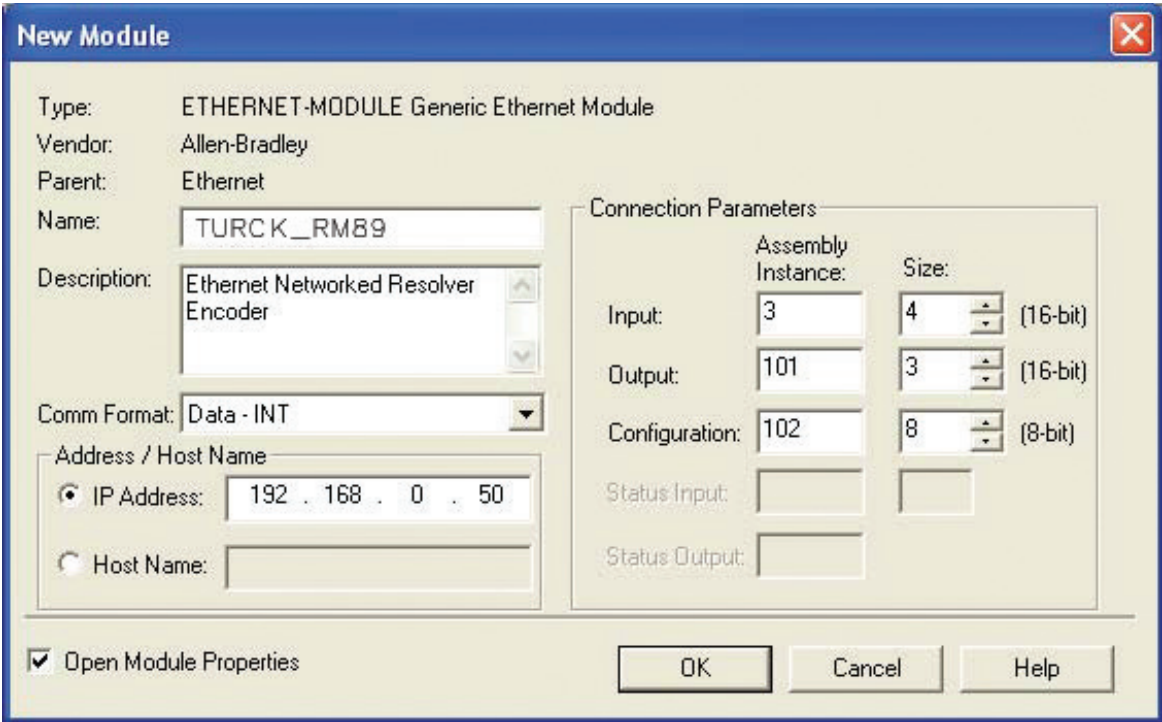

Figure 3.5 Sample RM-89 Configuration Screen
- 3.) Set the following parameters in the Module Properties window. All parameters not listed here are optional. Figure 3.5 shows a completed screen.